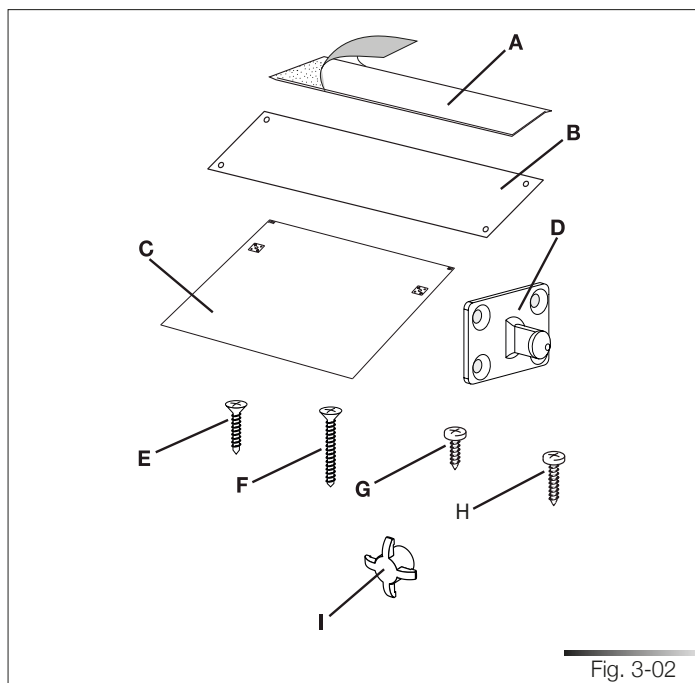

Fig. 3-02
- 1 adhesive steam guard (depending on the model) (ref. A fig. 3-02);
- 1 steel steam guard (depending on the model) (ref. B fig.3-02)*;
- 1 template for door panel (ref. C fig. 3-02);
- 2 hooks for door panel (ref. D fig. 3-02);
- 8 screws for securing the door panel hooks (ref. E fig. 3-02);
- 2 screws for securing the door (ref. F fig. 3-02);
- 4 screws for fixing the dishwasher to the adjacent walls (ref. G fig. 3-02);
- 2 upper fixing screws (ref. H fig. 3-02);
- 2 screw caps (ref. I Fig. 3-02);